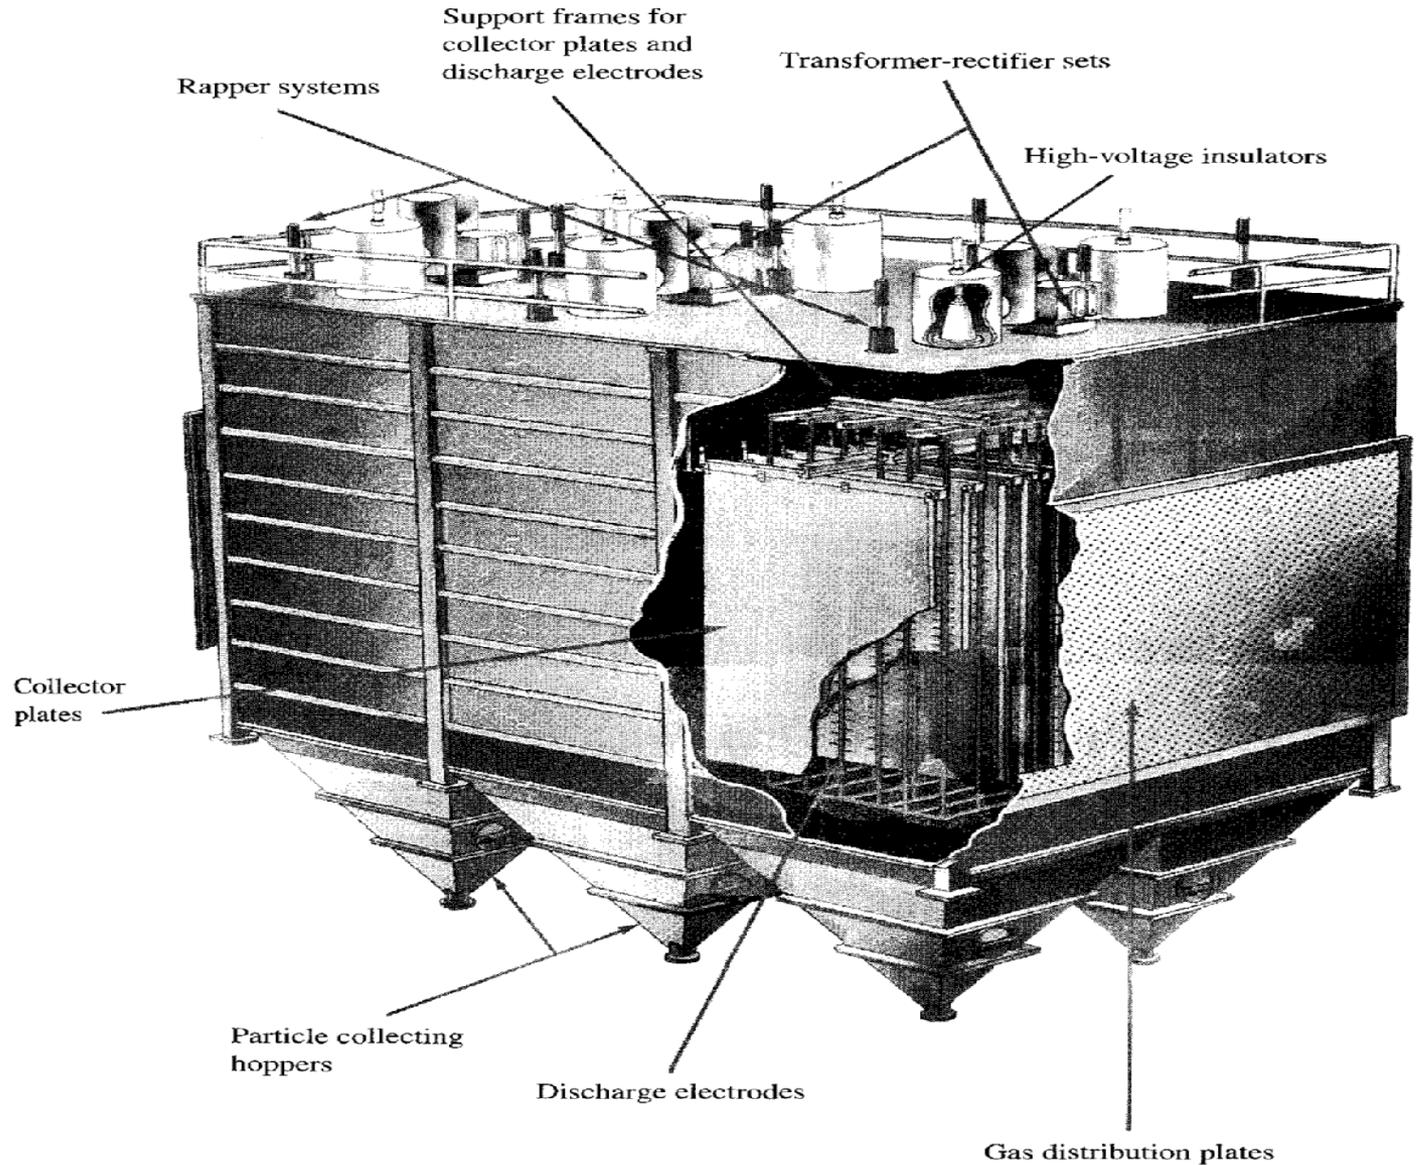

FIGURE 9.8
Diagrammatic sketch of a simplified ESP with two plates, four wires, and one flow channel. Industrial-size ESPs have many such channels in parallel; see Fig. 9.8.
- Furthermore, it is common practice to subdivide the power supply of a large precipitator into many sub-supplies so that each part of the precipitator can operate at the optimum voltage for its local conditions, and so that during the fraction of a second in which the system is shut down to neutralize a spark, only a small part of the whole ESP is shut down. (The multiple transformer-rectifiers are shown on the roof of the ESP in Fig. 9.8.)